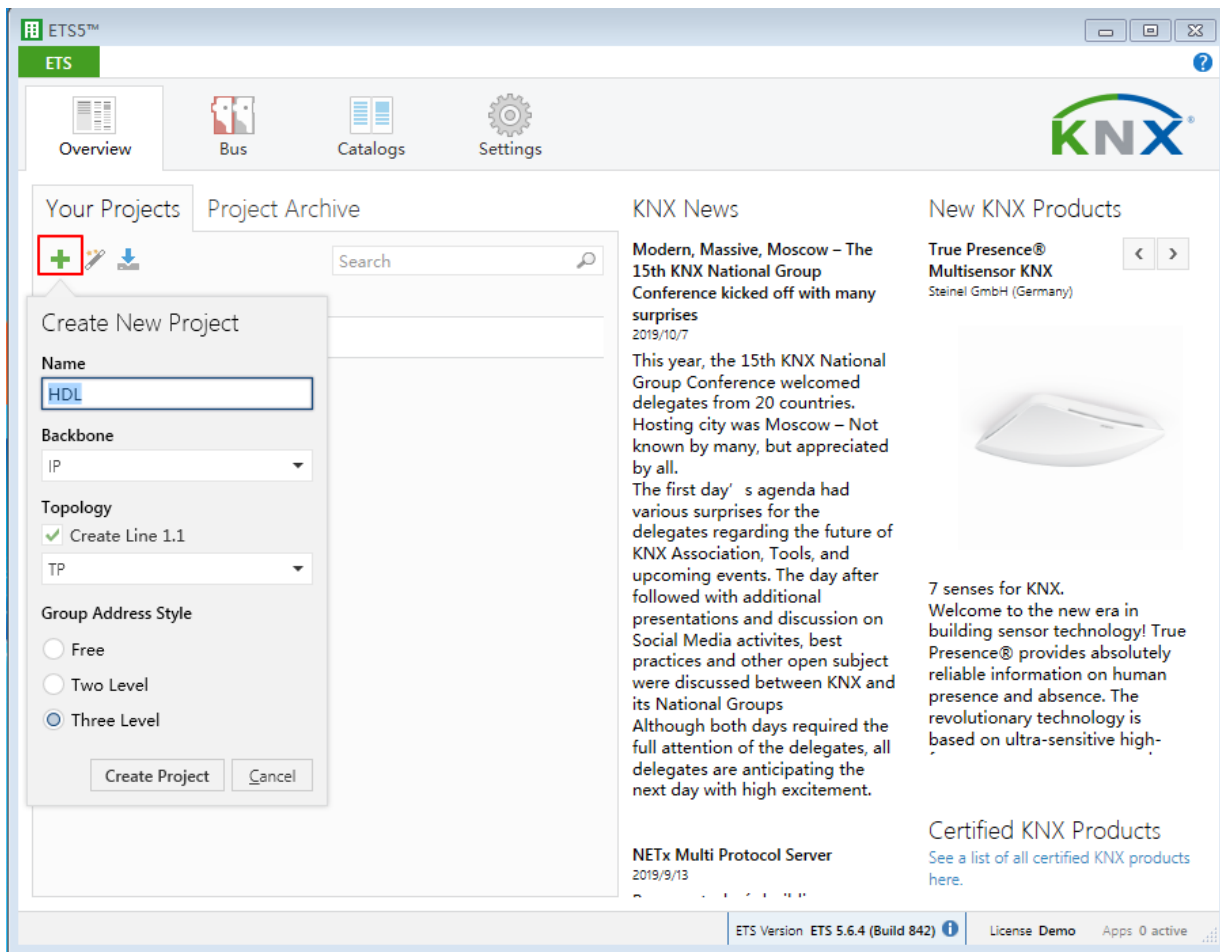

Figure 1-2 Create projects
- 2. Create Projects:** as shown in Figure 1-2, in “Your Projects” tab from ETS5 software’s “Overview” page, click “+” to create projects. After editing project name, please keep other setting items by default.